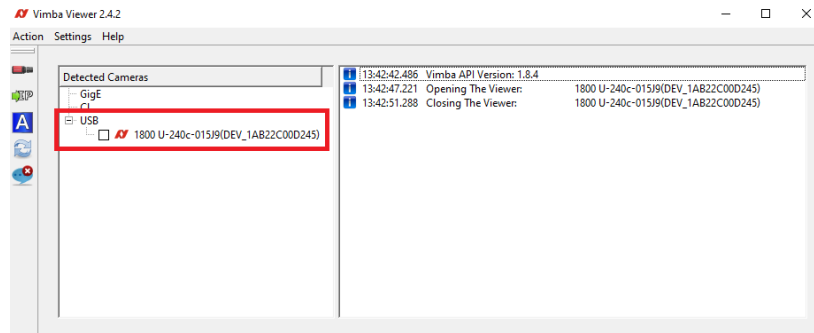

Figure 1-4
- After the restart open the Vimba Viewer. If everything is installed and connected correctly, your camera(s) will show up in the *Detected Cameras* section (see Figure 1-4).